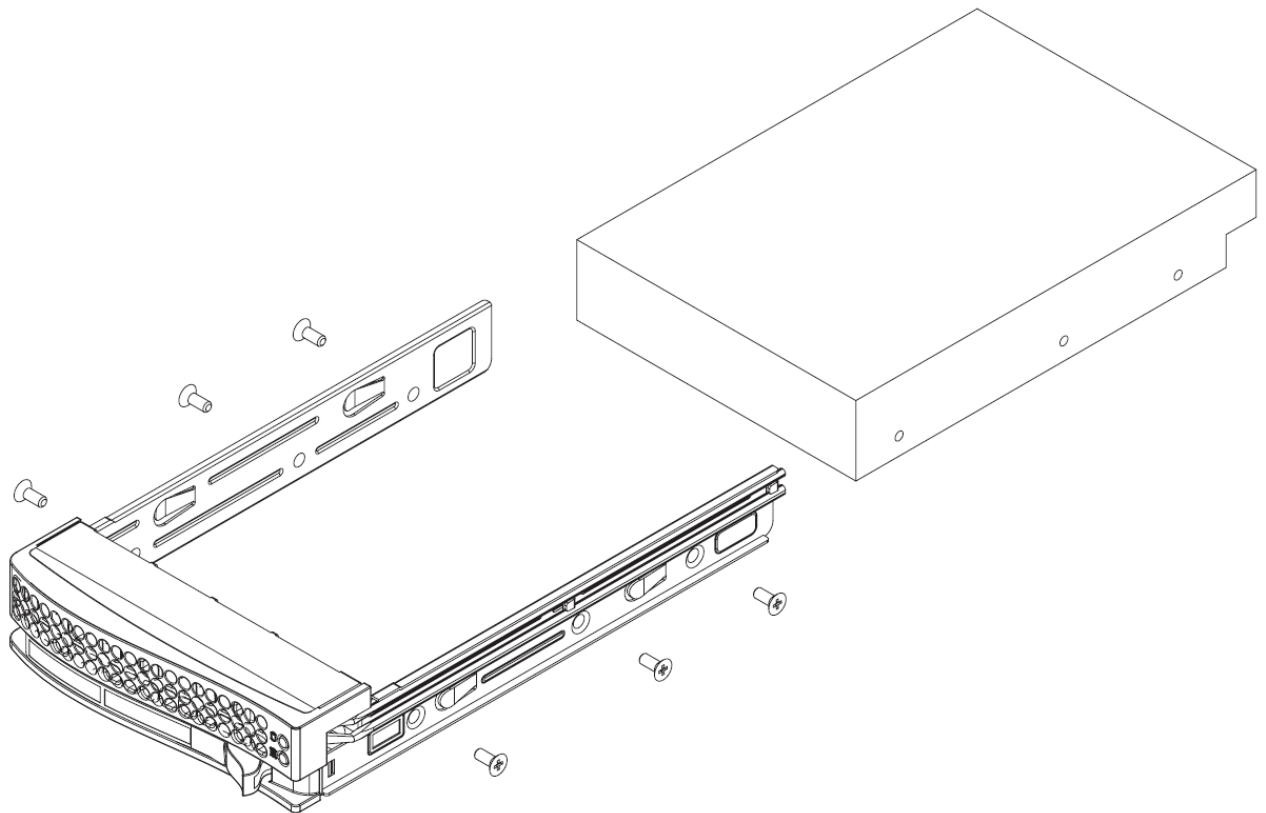

Figure 6-4. Mounting a Drive in a Carrier
2. Secure the drive to the carrier with four screws, as shown in Figure 6-4.